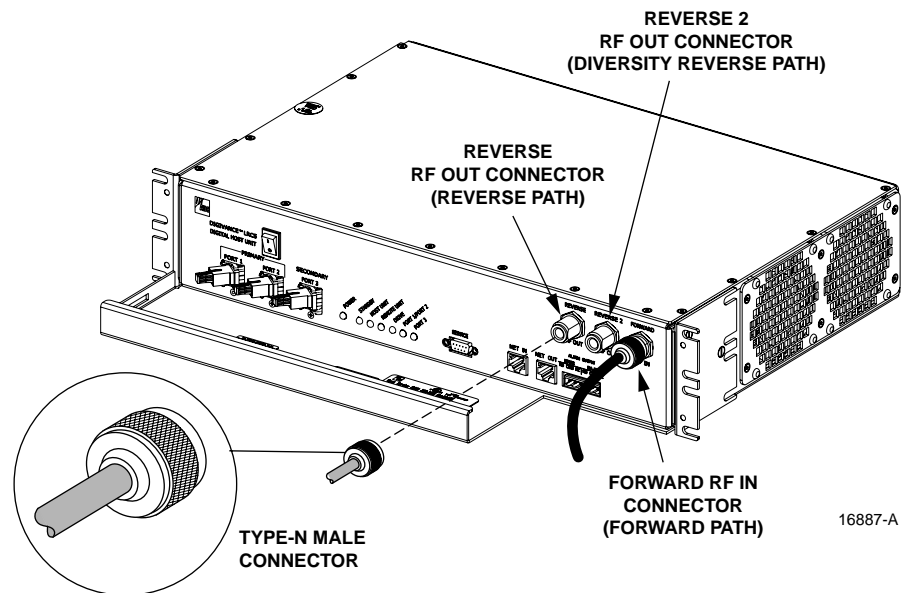

Figure 3-8. Forward and Reverse Path Coaxial Cable Connections
4. Connect the forward path cable to the **FORWARD RF IN** connector on the HU front panel as shown in Figure 3-8.
5. Connect the reverse path cable to the **REVERSE RF OUT** connector on the HU front panel (see Figure 3-8).
6. If the HU supports diversity, connect the diversity reverse path cable to the **REVERSE 2 RF OUT** connector on the HU front panel (see Figure 3-8).